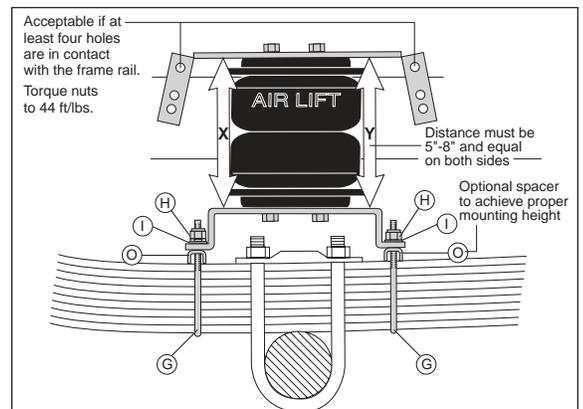

Figure 7
1. The air spring must be installed between 5" and 8" from both the upper bracket to the lower bracket (Figure 7). It is best to position the upper bracket as high as possible.
NOTE: The top rear mounting hole may be above the frame rail. If this condition exists, use the two lower mounting holes to mount the bracket (Figure 7).
2. Set the air spring assembly on the leaf spring over the axle (Figure 7).
4. In some cases, it may be necessary to use the optional spacers (O) to achieve the 5"-8" space (Figure 7). For example, if only the top two holes contact above the lower radius edge of the frame rail, it may be necessary to up the spacers (O) under the lower bracket to achieve mounting height.
2. If the spacer is used, place the spacers (O) legs down on the leaf spring and attach the lower bracket securely using the provided U-Bolts (G), flat washers (I), and lock nuts (H) (Figure 7).